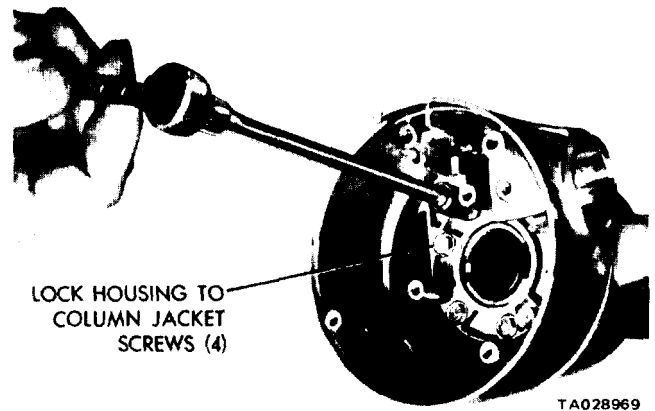

Figure 21-13. Lock-Housing-to-Column Jacket Retaining screws.
(2) Remove the shift indicator and lamp assembly.
(3) Remove the four lock-housing-to-column jacket hex head retaining screws and remove the lock housing from the jacket (figure 21-13).